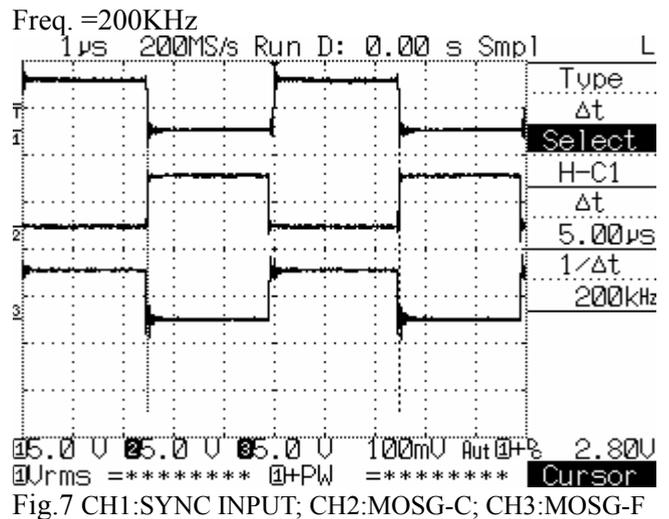
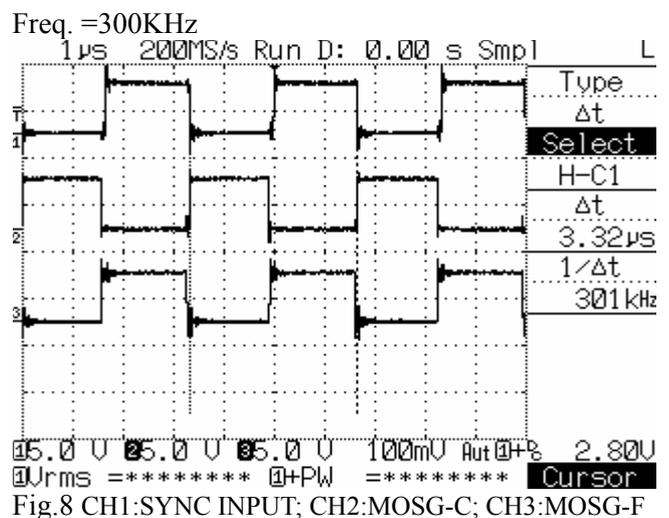

Fig.7 CH1:SYNC INPUT; CH2:MOSG-C; CH3:MOSG-F
Fig.8 CH1:SYNC INPUT; CH2:MOSG-C; CH3:MOSG-F
- (1) R4 is removed & function generator is used to force square waveform on pin8. Adjust Sync threshold high voltage>3.9V and sync threshold low voltage<0.9V.
- (2) +5V is forced on pin7 (VDD pin).
- (3) At the drain of each MOSFET, connect 100ohm to pull up +5V(VDD)
- (4) Fig.6 :  $f = 100KHz$  ; Fig.7 :  $f = 200KHz$  ; Fig.8 :  $f = 300KHz$